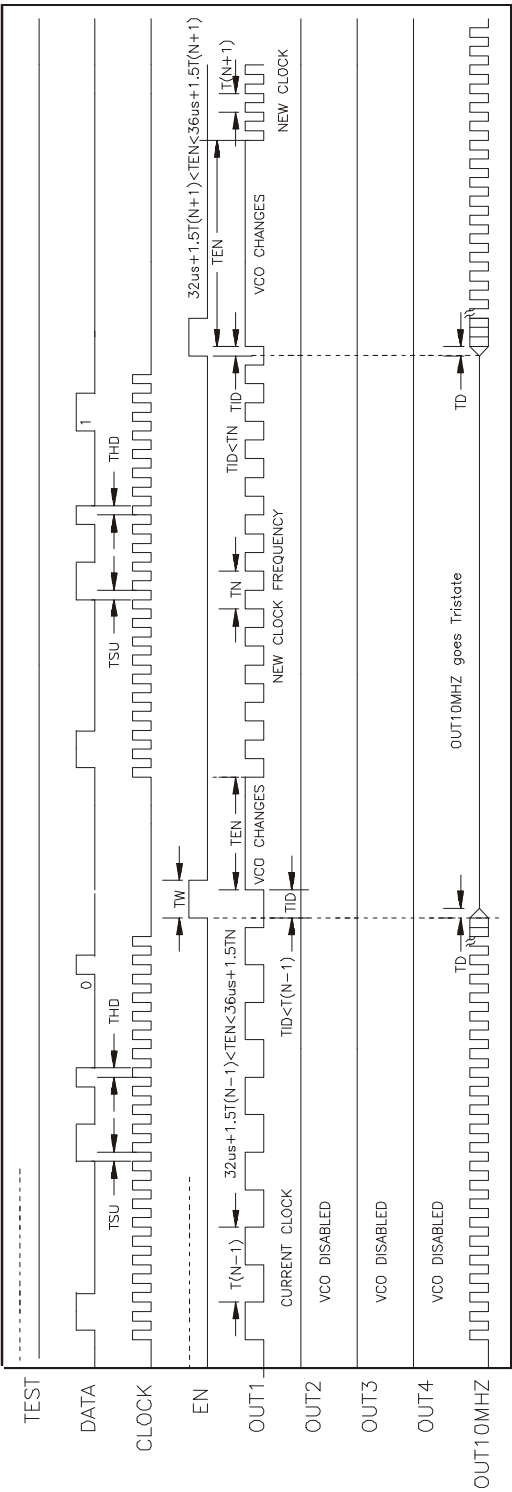

FIGURE 8 : PROGRAMMING OUT10MHZ BUFFER ON / OFF
**Bit19 : REF1** (see TABLE 1 & 4 & figure 8 )